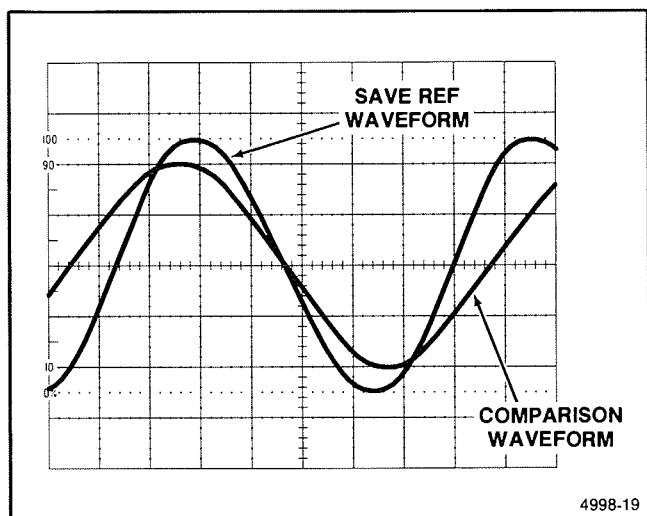

Figure 6-6. Waveform comparison.
8. Use the selected channel's Vertical POSITION control to overlay the newly acquired waveform on the reference waveform for making the comparison (see Figure 6-6). The vertical deflection and sweep rate remain calibrated to allow direct measurement from the graticule, or cursors may be used to determine voltage or time differences.